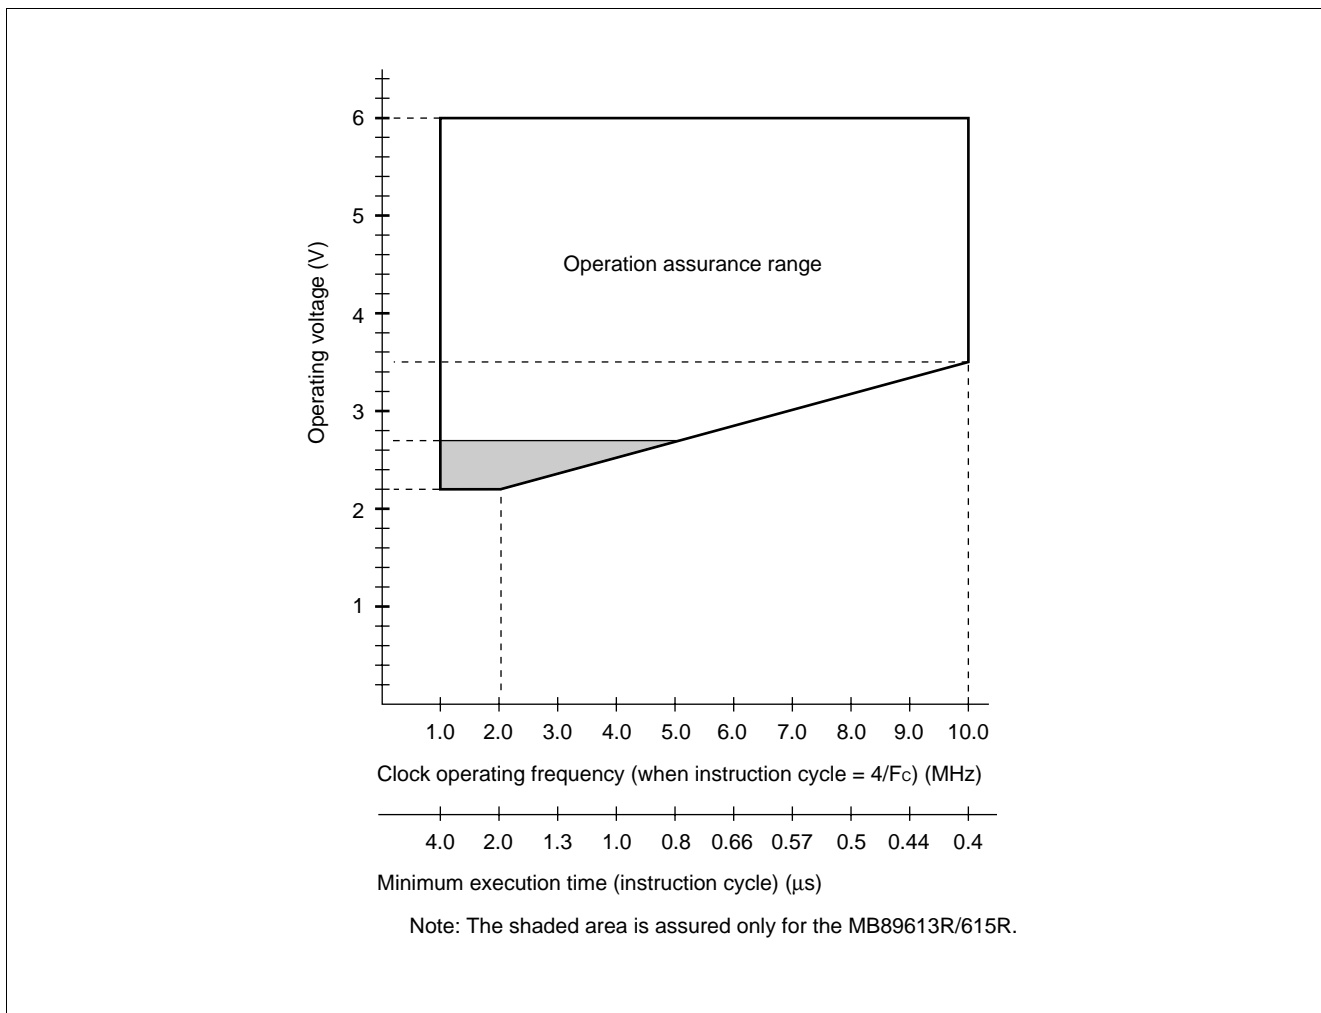

Figure 1 Operating Voltage vs. Clock Operating Frequency
* : These values vary with the operating frequency. See Figure 1.
Figure 1 indicates the operating frequency of the external oscillator at an instruction cycle of 4/F_c.